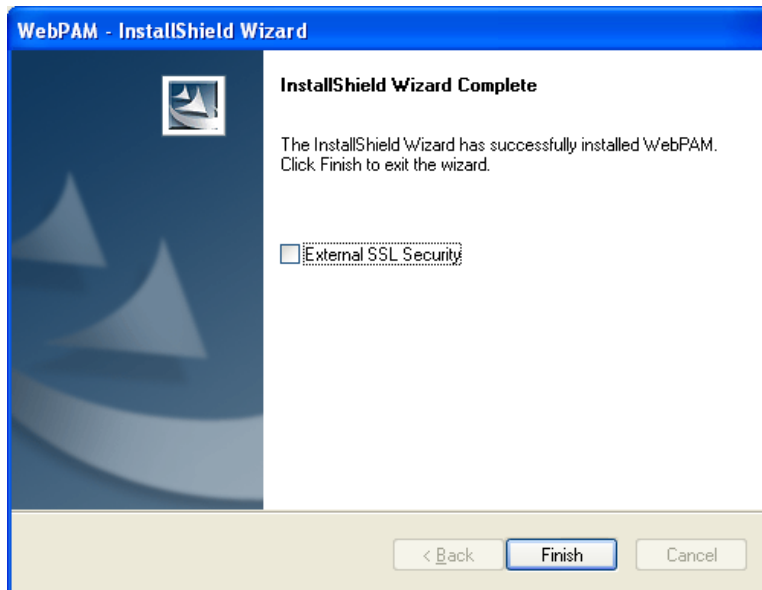

Figure 7-36: WebPAM Installation Complete
Step 18: The Installation complete screen in **Figure 7-36** appears.